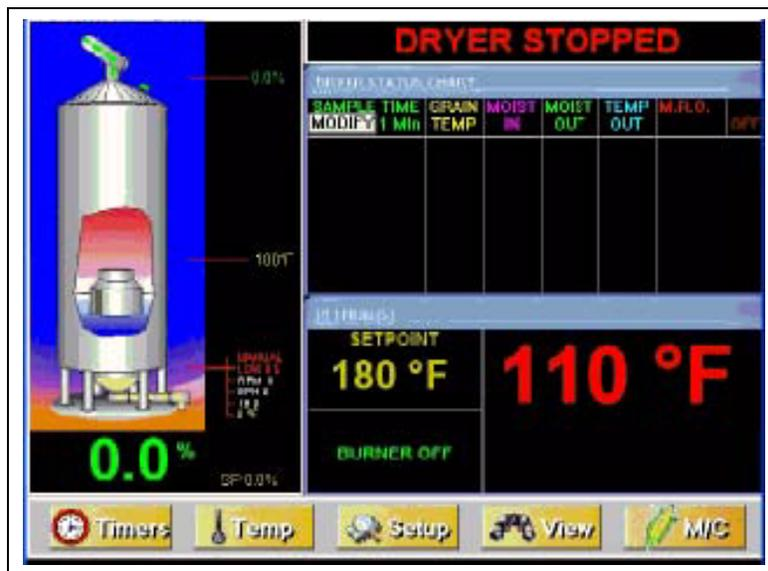

Figure 6B
1. **Table view:** This is the Default Operation screen view. (See Figure 6B on Page 25.)